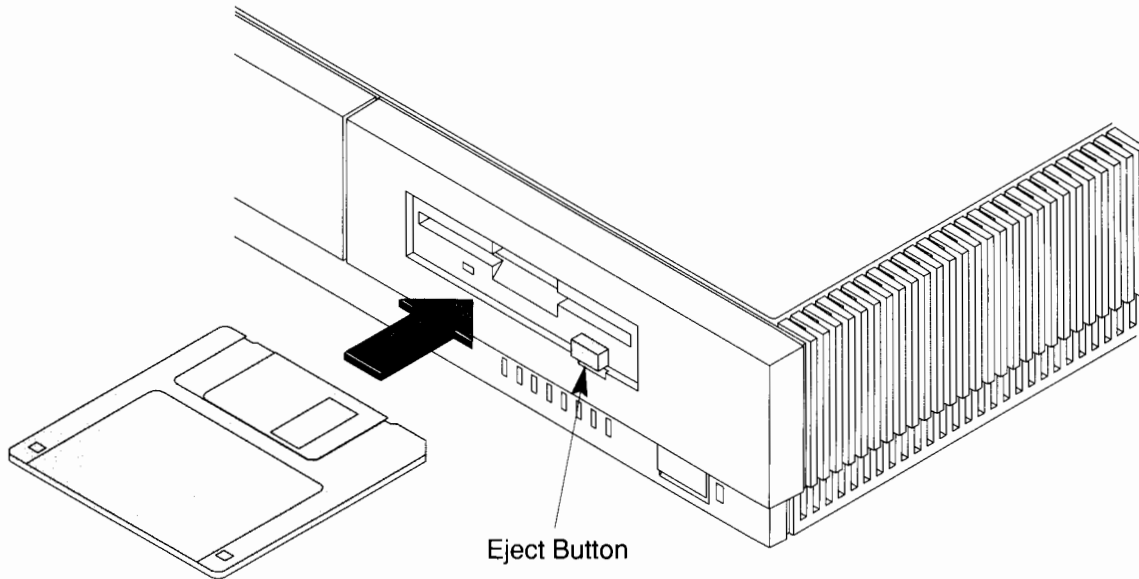

Figure 3–2. Inserting and Removing the Diskette
1. Insert the diskette into the drive, as shown in Figure 3–2.
3. To remove the diskette, push the eject button on the front of the floppy drive (see Figure 3–2), then take out the diskette.